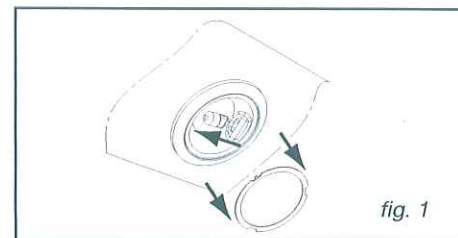

fig. 1
- Remove the lighting port (fig. 1).